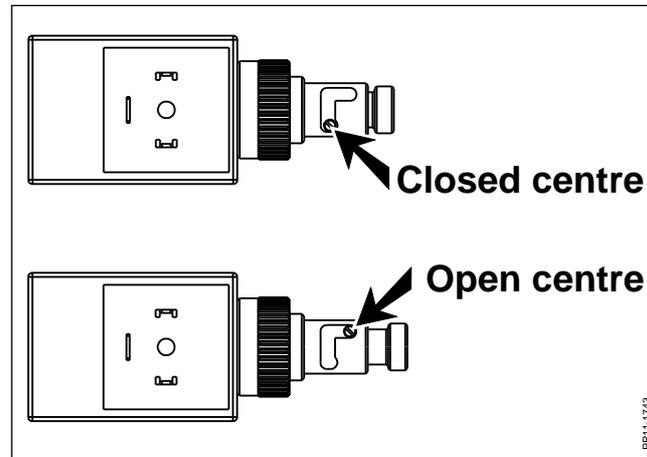

Fig. 2-1
**Fig. 2-1** We distinguish between two types of tractor hydraulic systems: “open centre hydraulic” (also called “fixed pump”) and “closed centre hydraulic” (also called “variable pump”).